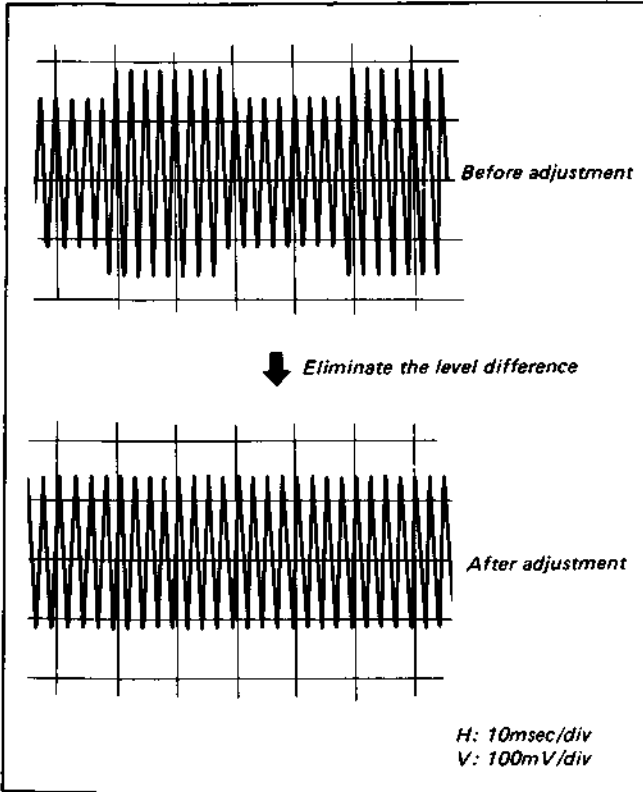

Fig. 5-47. Playback level balance adjustment
- (1) Play back the BETA Hi-Fi alignment tape (KR5-10C).
- (2) Connect an oscilloscope to TP008 (TP010) and adjust to  $-20 \pm 0.1$  dB with RV014 and RV013 (RV006 and RV007), and to eliminate the level difference. (See Fig. 5-47.)
- (3) Restore the shorting between the audio line input and GND.